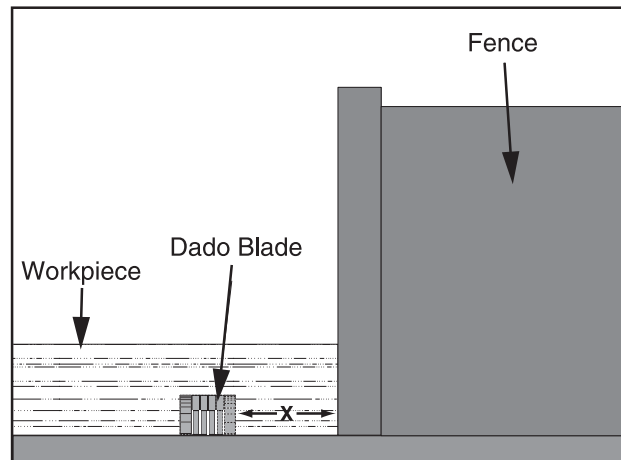

Figure 46. Stacked or wobble dado cut.
5. Adjust the distance between the fence and the inside edge of the blade as shown in **Figure 46** to dado the length of a workpiece.